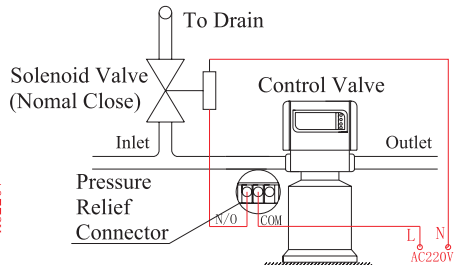

Figure 3-3 Wiring of Pressure Relief Solenoid Valve
- **Method2:** the wiring refers to Figure 3-3. It uses the two wiring terminals(N/O, Normal Open terminals) of the Signal Output Connector(CN07) to control pressure relief solenoid valve.
As is shown in Figure 3-3, when the valve is at position of Service, Backwash,